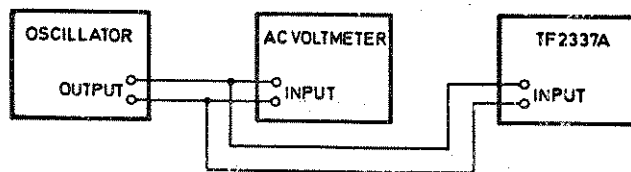

Fig. 4.1 Level Meter Frequency response check
- (b) Connect the TF 2337A as shown in Fig. 4.1.
- b) Connect the TF 2337A as shown in Fig. 4.1.